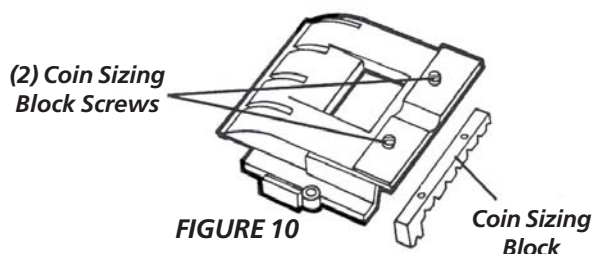

FIGURE 10
- Remove two screws that hold coin sizing block to upper coin chute cover (see FIGURE 10).